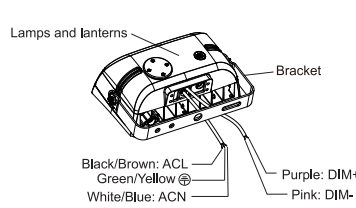

figure 3.7
- Step 2: Finish the wire connection according to the right mode of connection (pay attention to positive wire, negative wire, and ground wire). (figure 3.7)